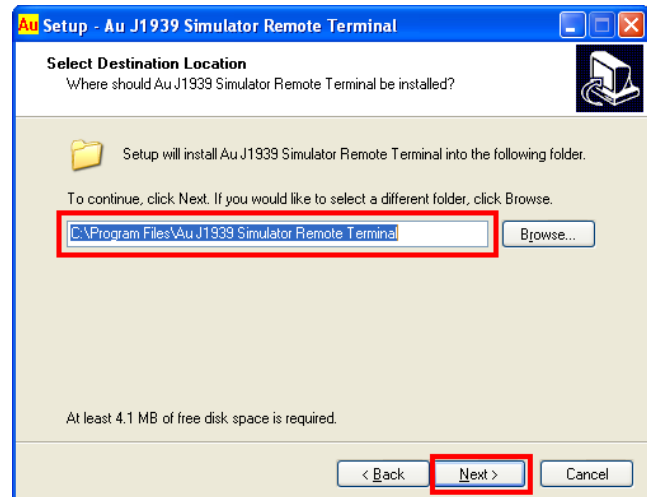

Figure A-5
5. "Select Destination Location" window pop up, use the default folder, and click "Next" to continue (Figure A-5).